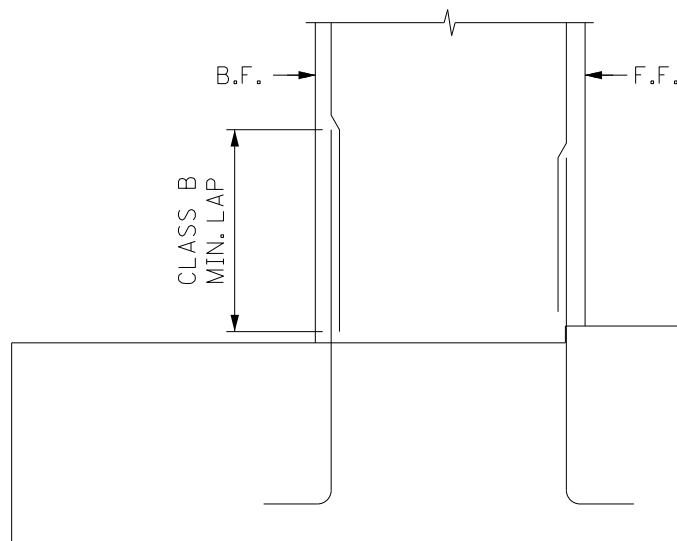

Figure 2
2. Dimension laps between dowel bars and vertical bars in the plans rather than the projection from the top of the footing. Show the lap starting from the end of the vertical bar rather than the top of the concrete. (See Figure 2.)
3. Show vertical bars in abutments, wingwalls, retaining walls, and other similar situations as ending above the top of the footing. (See Figure 2.) This provides visual clarity for the drawing, but does not necessarily reflect how the bar will be placed during construction.